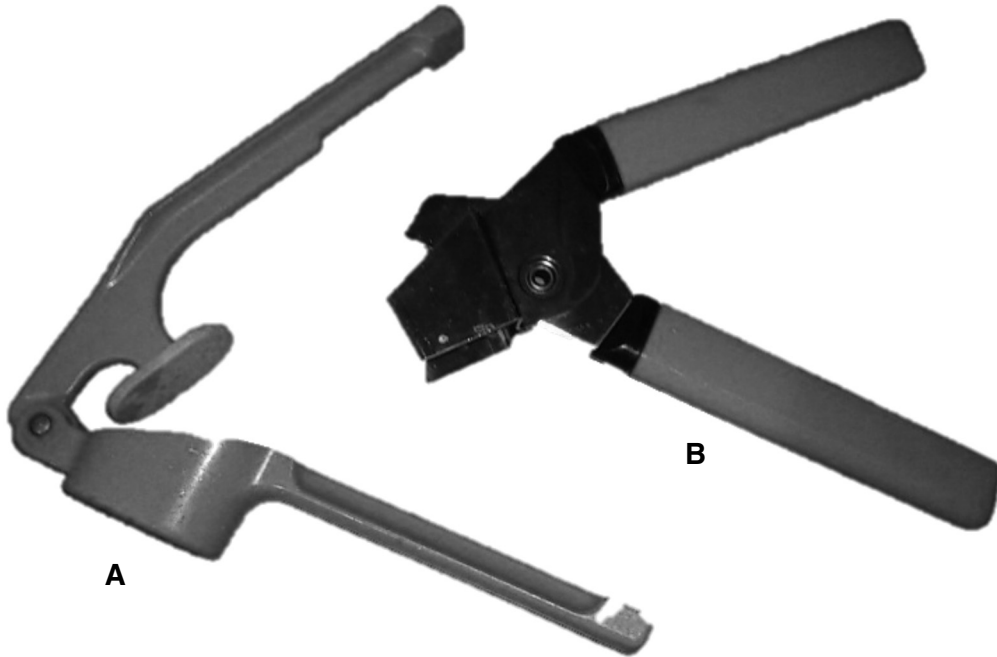

Fig. 2
17 Fig. 2 shows two garlic presses.
(b) On Fig. 2 label the Fulcrum (F) Effort (E) and Load (L) of garlic press **A**.